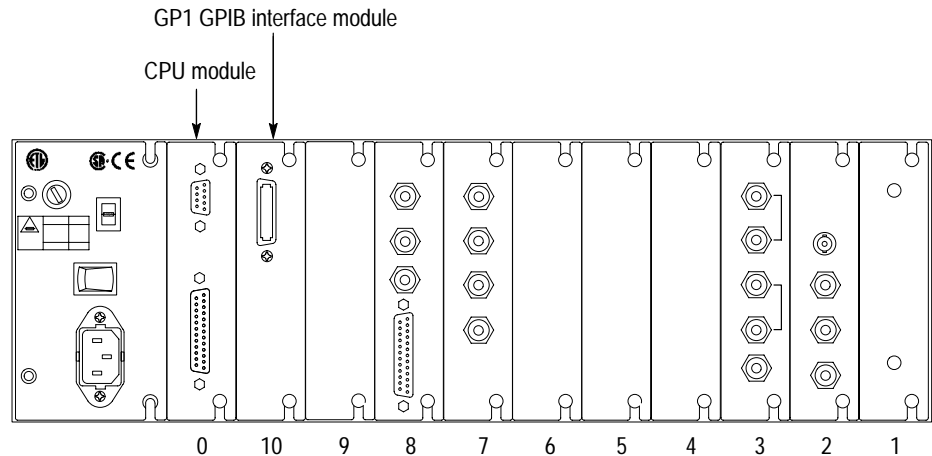

Figure C-2: TG 2000 mainframe slot numbering and GP1 Interface module location
4. Figure C-2 shows the slot locations where special modules must be installed. The GP1 Interface module must be installed in slot 10.